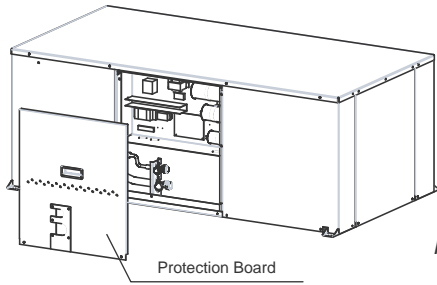

Fig. 14-2
14.3 Wiring figure (Refer to Fig.14-2~Fig.14-5)